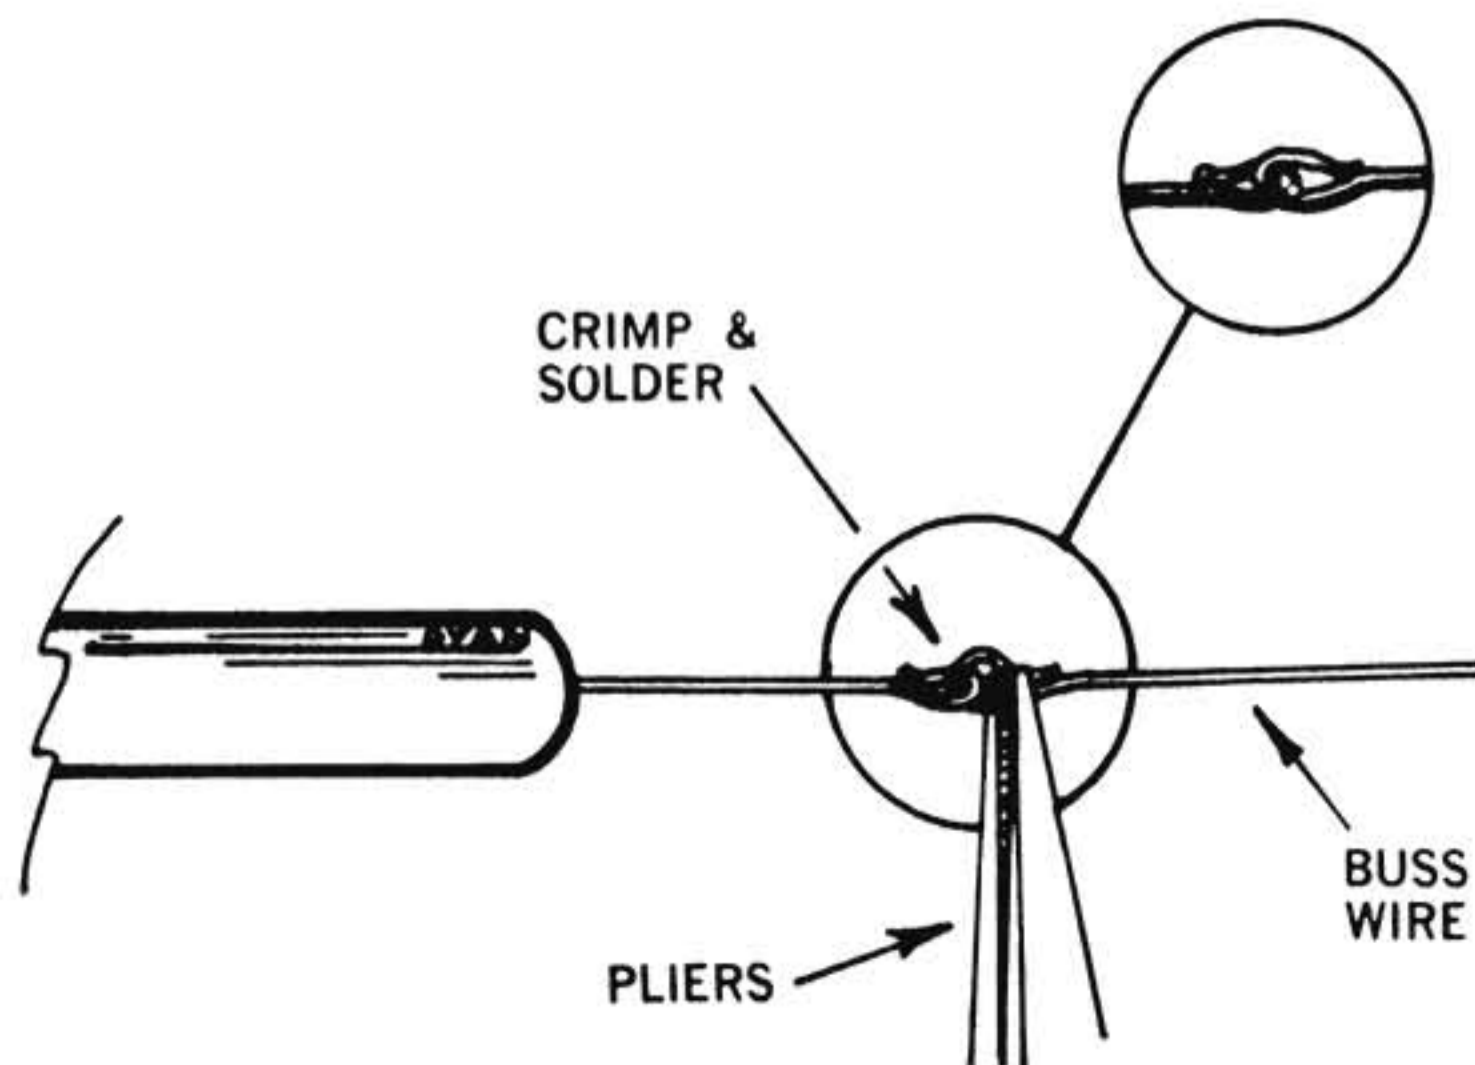

FIGURE 3
1. Cutting a wire or lead too short — If you cut the wire from one of the components too short you can easily correct it by taking a small piece of uninsulated wire (buss wire) and splicing it on as shown in Fig. 3. If a wire supplied is damaged, you can cut off a replacement from the 4 feet of spare wire supplied.